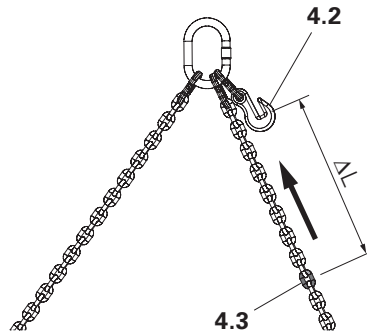

Fig. 17
2. Measure shortening measurement  $\Delta L$  from the chain shortener (4.2) on the chain. (Fig. 17)